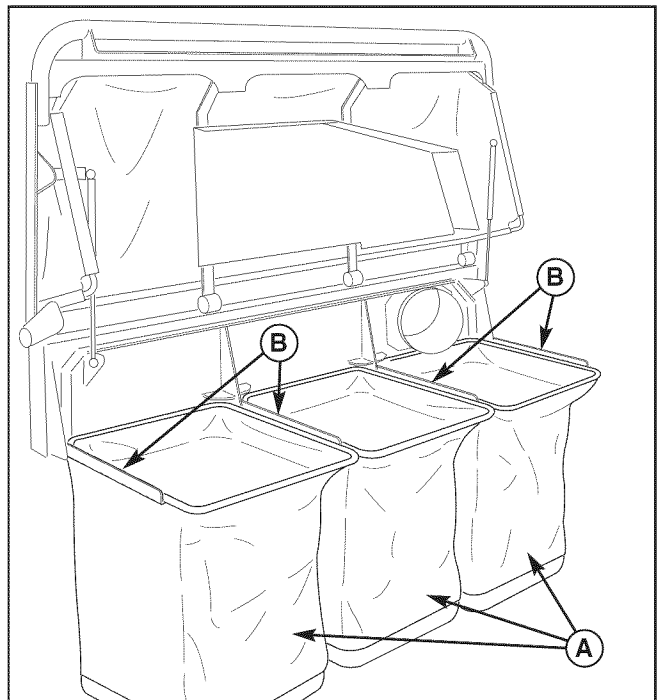

Figure 43. Install the Collector Bags
1. Raise the collector hood and slide the collector bags (A, Figure 43) onto the frame rails (B).